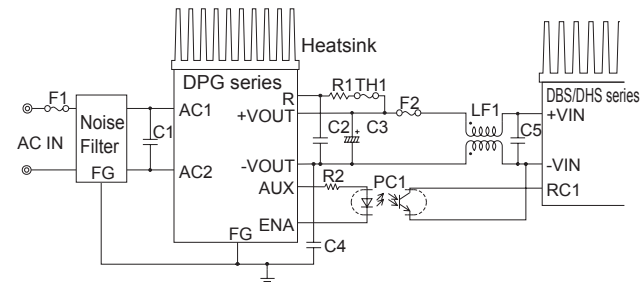

Fig.3.1 Standard connection method
To use DPG Series, connection shown in Fig.3.1 and outside attached components are required. Through this connection, DC output voltage can be obtained from AC input voltage. AC input voltage and DC output voltage are not insulated.
- For connecting the DBS/DHS series, see Fig.3.1.